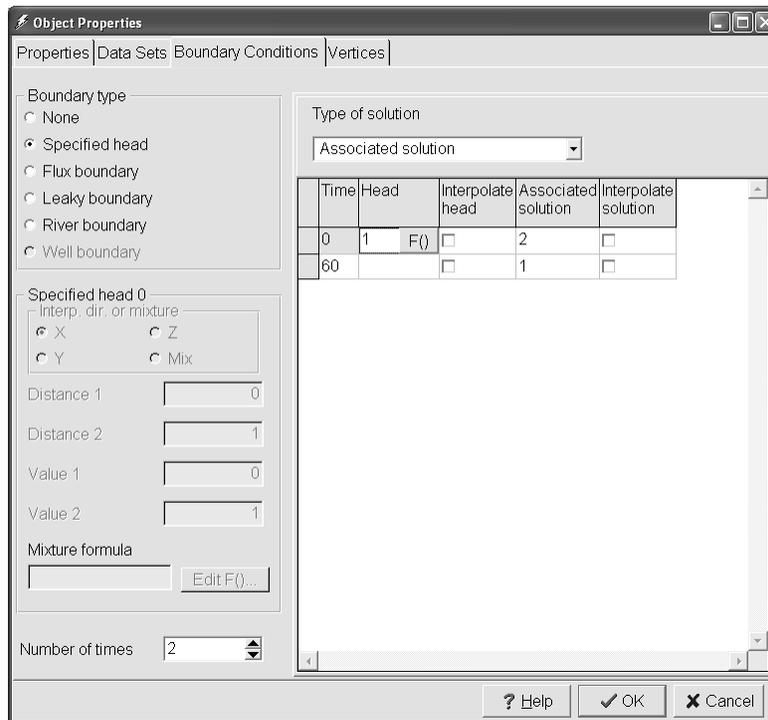

Figure 35. Object Properties dialog box showing how to set up the specified head boundary for the left side of the model.
- At this point the **Object Properties** dialog box will appear. Click the **Help** button and read about this dialog box. On the **Properties** tab, check the **Nodes** radio button. Then change to the **Boundary Conditions** tab and select the **Specified head** radio button. Change the **Number of times** (near the bottom left) to 2. Then fill in the table for the specified head boundary condition as illustrated in figure 35. This specified head boundary will have a **Head** of 1 for the duration of the model but its **Associated solution** will change from 2 to 1 after 60 seconds. The value for **Head** only needs to be specified once.